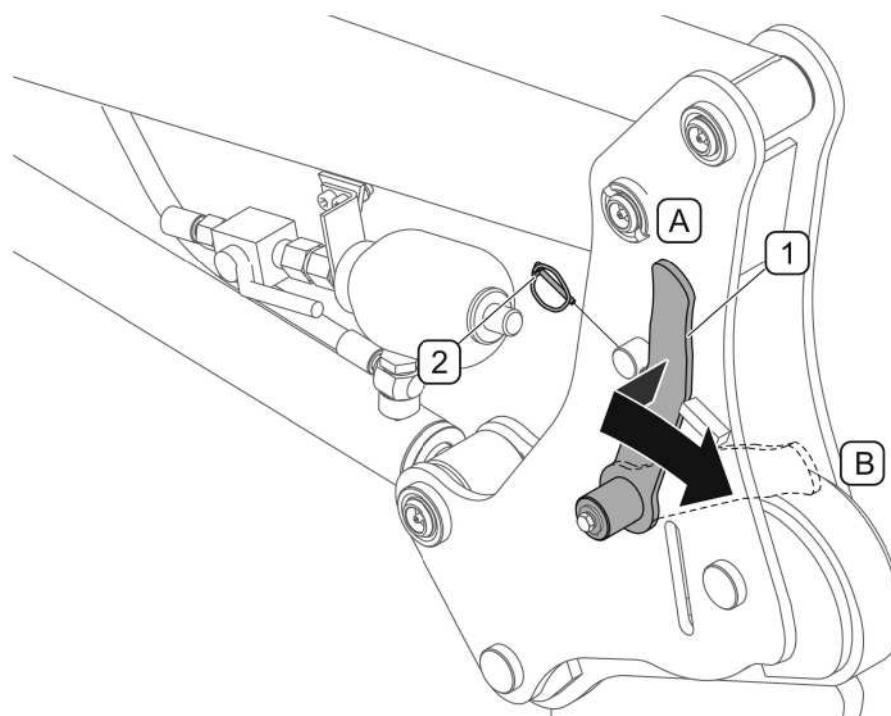

FIG. 4.29A Demounting loader from support frame
- take out securing cotter pin (2), (FIG. 4.29A);
- push back lever (1) of lock and set it to the rear in "unlocked" setting (B);